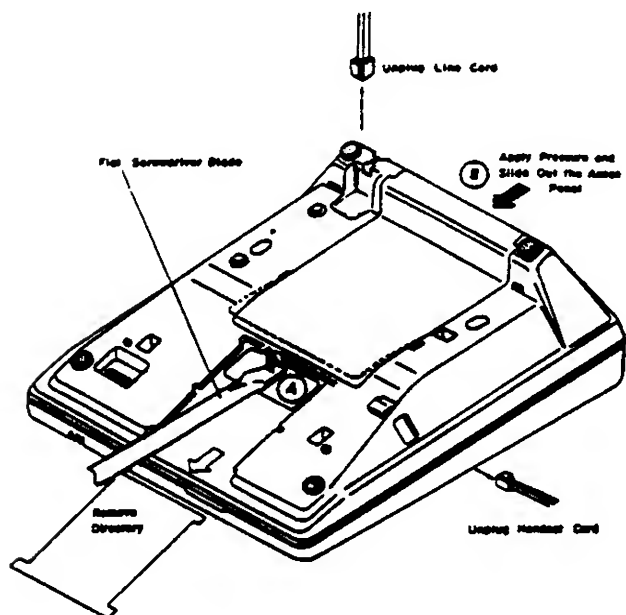

Figure 260-1 Multiline Terminal Access Panel Removal
A. Unplug the line cord at the RJ11C/W, then turn the Multiline Terminal upside down (face down) and locate the access panel on the bottom of the Multiline Terminal. Refer to Figure 260-1.
A. Unplug the line cord at the RJ11C/W, then turn the Multiline Terminal upside down (face down) and locate the access panel on the bottom of the Multiline Terminal, refer to Figure 260-1
A. Unplug the line cord at the RJ11C/W, then turn the Multiline Terminal upside down (face down) and locate the access panel on the bottom of the Multiline Terminal, refer to Figure 260-1.
A. Unplug the line cord at the RJ11C/W, then turn the Multiline Terminal upside down (face down) and locate the access panel on the bottom of the Multiline Terminal (see Figure 260-1).